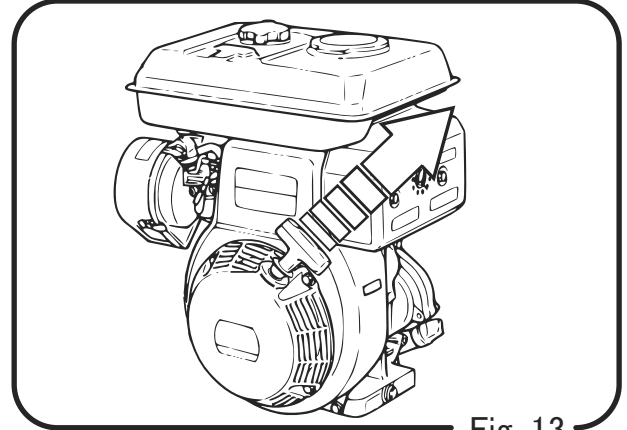

Fig. 13
8.1.3. With recoil starter: (Fig. 13)